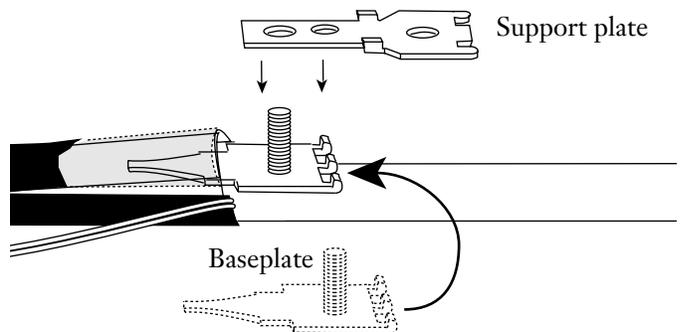

Figure 17
- Place the 3M Scotchlok 4460-D\FO Shield Bond base plate between the sheath and central tube (Figure 17).
- Install the support plate onto the threaded stud on the base plate (Figure 17).